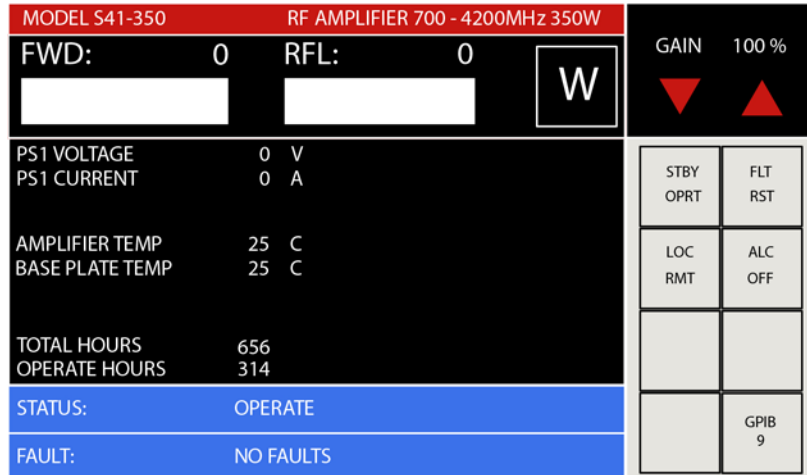

FIGURE 5.0 – MAIN MENU AND STATUS DISPLAY (Typical)
Control Level Adjust Knob	<p>The optional Level Adjust control is a ten-turn pot, which allows a minimum of a 30 dB range of gain. Turning the control Counter Clockwise (CW) produces a minimum gain.</p> <p>Important Note: If the amplifier is not equipped with this option, the display will still indicate a GAIN percentage (refer to Figure 5.0). This percentage indication is still controlled by Level Adjust Control but the both the Level Adjust Control and the corresponding GAIN percentage indication has no effect on the amplifier gain.</p>
Important Note: Figures 5.0 and 6.0 indicates the display for a typical amplifier and the ALC option is indicated however if the amplifier is not equipped with this option, the ALC option will not be displayed.